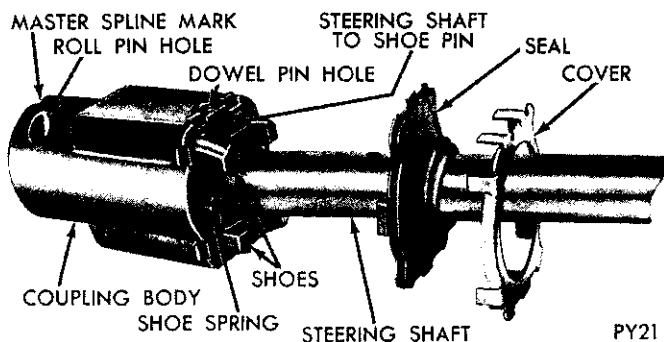

Fig. 29—Assembling Steering Shaft Coupling
(1) Fill coupling body with grease to approximately 1/2 inch from top.
(2) Place cover and seal on shaft.
(3) Press shoe pin into steering shaft so that it projects an equal distance on each side of shaft.
(4) Place spring on side of shaft, straddling the shoe pin.
(5) Place shoes on pin ends with flat side toward spring engaging tangs.
(6) Squeeze shoes together, compressing spring, and push assembly into coupling body (Fig. 29) with gauge hole in shaft aligned with master spline in coupling.
(7) Drive in a new dowel pin flush to outer surface of coupling body.
(8) Position seal and cover on body and crimp cover tangs over the projections on body securely.